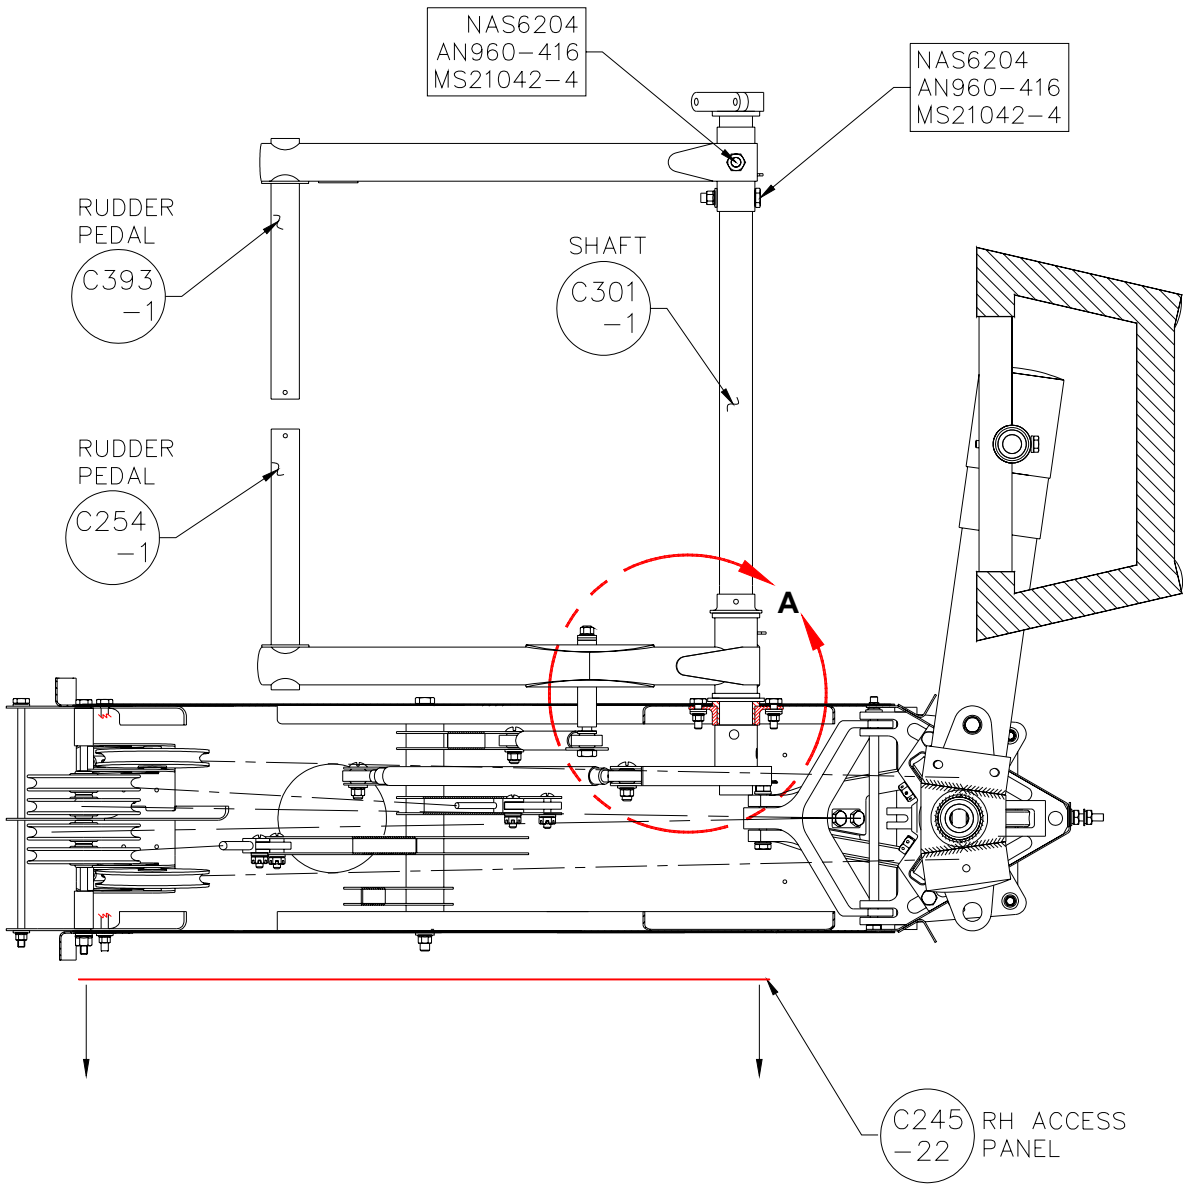

Figure 1
1. Remove Center Console, RH access panel cover, Part number C245-22, and retain hardware. See Figure 1.
2. Remove bolts securing C393-1 rudder pedal (Left) to C301-1 shaft and retain hardware. See Figure 1.